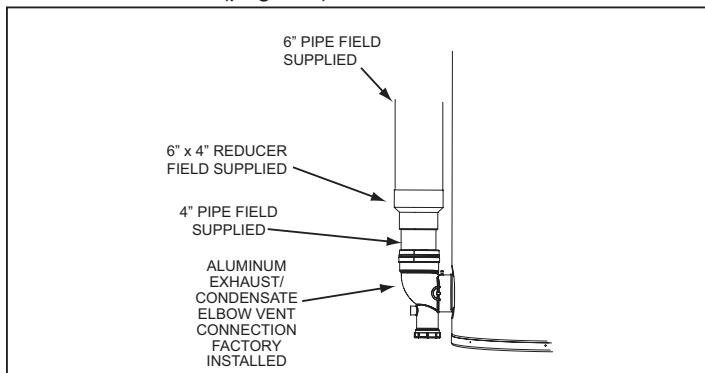

Figure 15. Vent Exhaust Connection
11. If installing 6 inch pipe transition to 4 inch pipe as shown in *Figure 15*. The field installed 4" pipe between the exhaust elbow and the 6" x 4" reducer coupling should be 18 inches (45 cm) or less in length.
11. If installing 6 inch vent pipe transition to 4 inch pipe at the exhaust elbow on the water heater as shown in **Figure 15** (page 23). The field installed 4" pipe between the exhaust elbow and the 6" x 4" reducer coupling should be 18 inches (45 cm) or less in length.